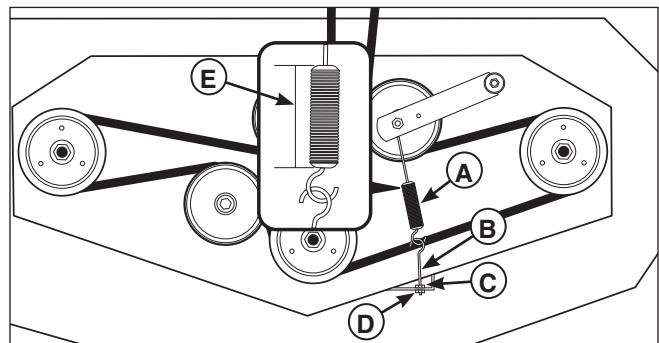

Figure 22. Mower Belt Idler Spring Length
3. Measure the coil length of the mower belt tension spring (A, Figure 22). The measurement should equal 6-1/4" (15,9). If the measurement doesn't equal 6-1/4" (15,9), adjust the mower belt idler tensioner spring length.
1. Loosen the jam nut (C, Figure 22).
2. Turn the adjustment nut (D) until 6-1/4" (15,9) is achieved.